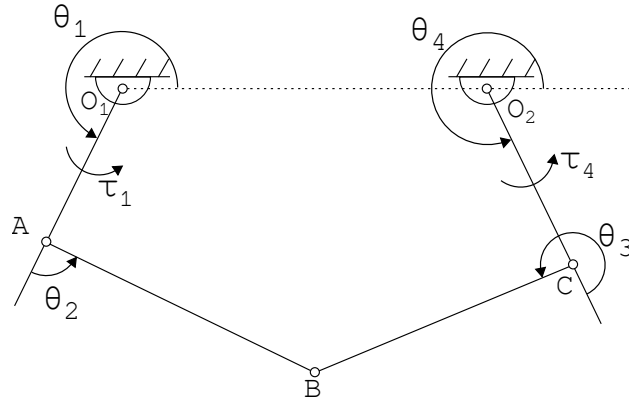

Figure 2: Pantograph
Refer to Figure 2 for questions 2, 3, and 4. The link lengths are given by $l_0 = 0.25$ m, $l_1 = l_4 = 0.3$ m, $l_2 = l_3 = 0.35$ m. Each link is made of homogeneous material, so assume that the center of mass of each link is at its geometric center. The inertial constants
3. [25 points] Perform position-level kinematic analysis for the pantograph depicted in Figure 2. Follow this analysis up by performing a static-force analysis. Find the values of the motor torque $\tau = [\tau_1 \ \tau_4]^T$ necessary to “cancel the gravity” (i.e. keep the mechanism stationary) when $[\theta_1 \ \theta_4]^T = [240^\circ \ 310^\circ]^T$. (Notice that you first need to find what θ_2 and θ_3 correspond to these values of θ_1 and θ_4 .)